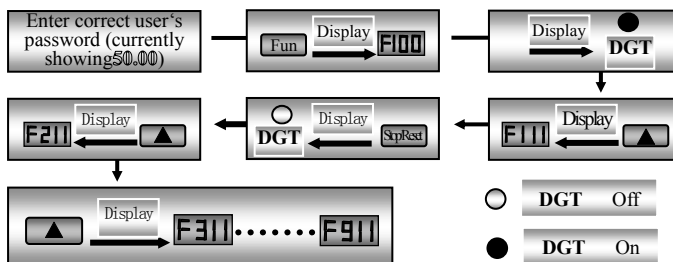

Fig 2-2 Switchover in a Code Group or between Different Code-Groups
e.g. when function code shows F111 and DGT indicators on, press “▲”/“▼” key, function code will keep increasing or decreasing by degrees within F100~F160; press “stop/reset” key again, DGT indicator will be off. When pressing “▲”/“▼” key, function codes will change circularly among the 10 code-groups, like F211, F311...FA11, F111..., Refer to Fig 2-2 (The sparkling “50.00” is indicated the corresponding target frequency values).